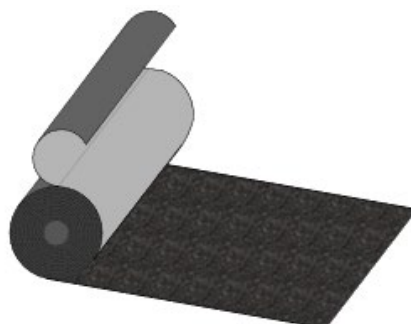

Fig. 6 - Start Line SA
- As the starting line, use the Start Line SA: a self-adhesive bituminous membrane strip with slate chips on the surface, 33 cm in height, from which the protective backing film should be removed prior to installation - Fig. 6;